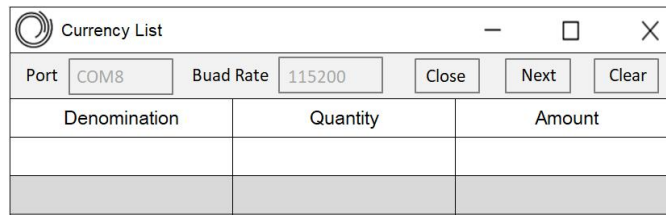
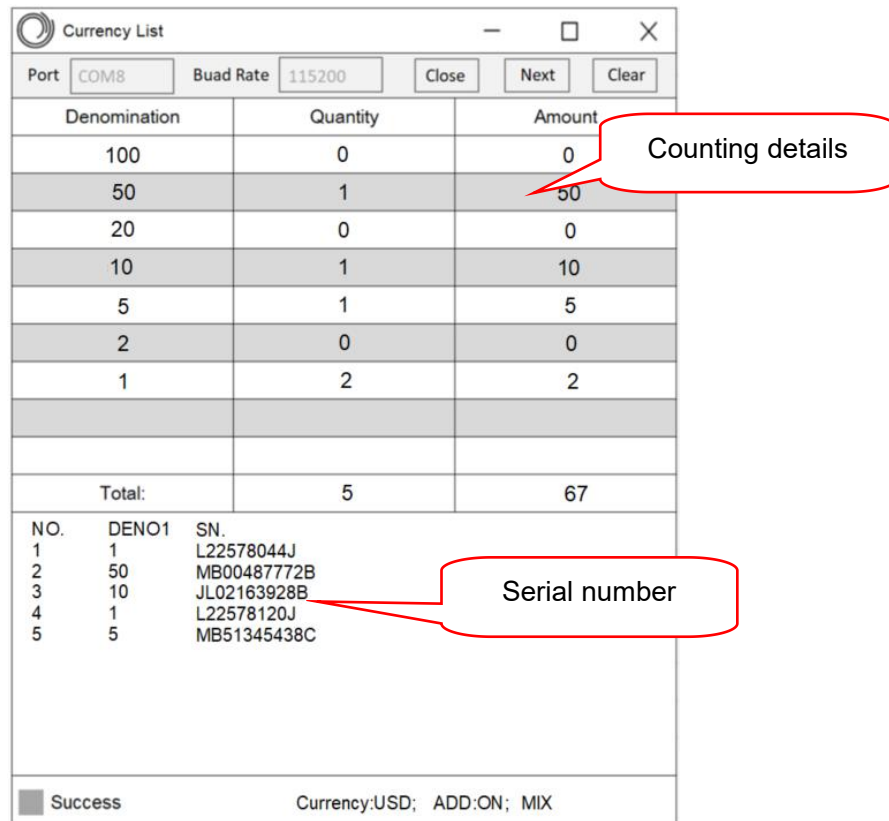

Figure 83
Figure 84
3) Press the Open key again, the font of serial port and baud rate will be dimmed, OPEN will be changed to CLOSE, and then counting can be performed and the counting information can be checked, as shown in Figure 83 and Figure 84 below.